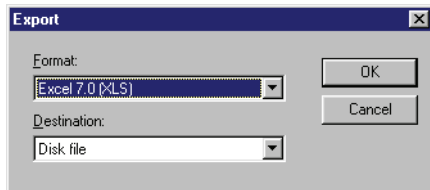

Figure 7-7: Export Window
3. In the central field, click on the  button. The Export window will appear (see Figure 7-7).